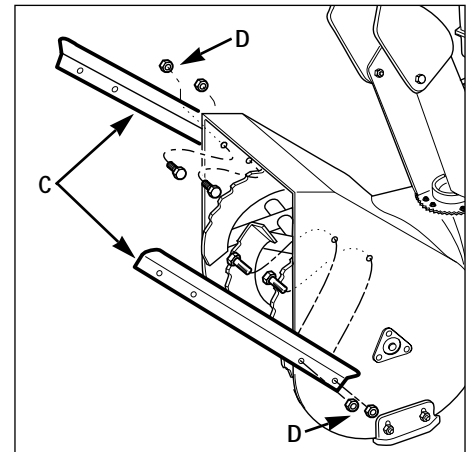

Figure 2-10
The drift slicers (C, Figure 2-10) are designed for use in deep snow. Their use is optional for normal snow conditions.
1. Position the drift slicers as shown, (C, Figure 2-10) to the outside of the collector (auger/impeller) housing.
2. Attach the drift slicers with the four 5/16-18 x 3/4 screws and locknuts (D) provided with the drift slicers.